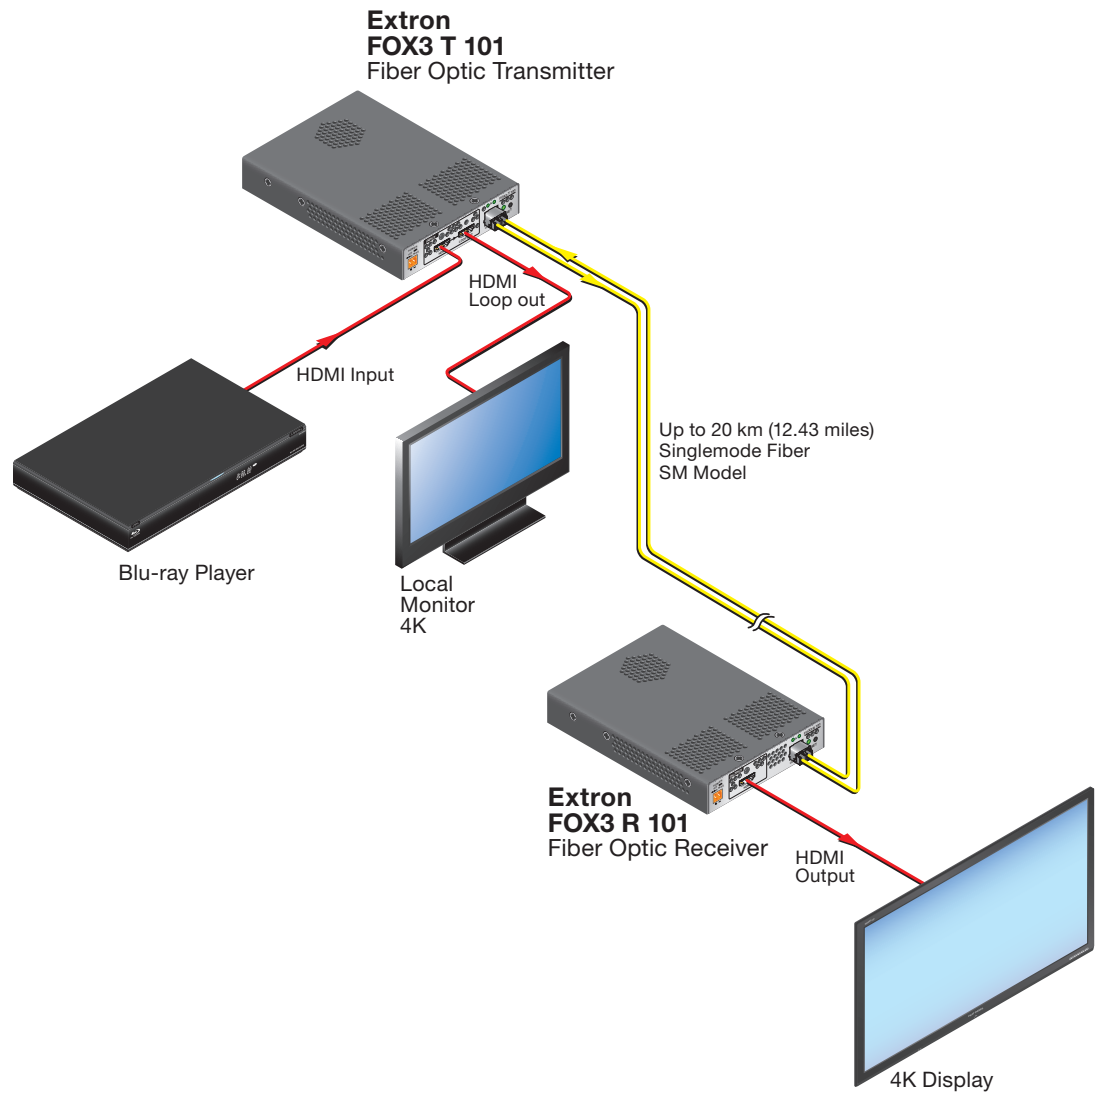

Figure 1. Typical FOX3 101 Transmitter and Receiver Application
- **Uncompressed** HDCP-compliant 4096x2160 or 3840x2160 (UHD) @ 30 Hz HDMI video over one fiber optic cable (see figure 1 on page 2).